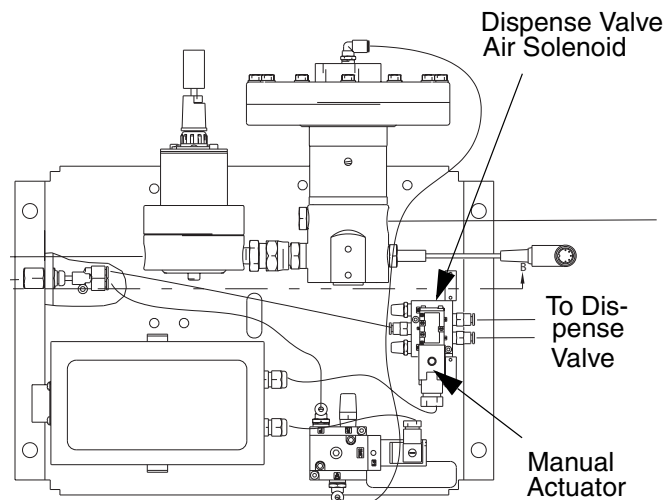

FIG. 13
5. If the dispense device cannot be actuated from the control unit, refer to FIG. 13 and perform the following steps to open the dispense device and relieve fluid pressure:
- a. Manually actuate the plunger on the solenoid, that opens the dispense device, to relieve fluid pressure. Refer to FIG. 13.